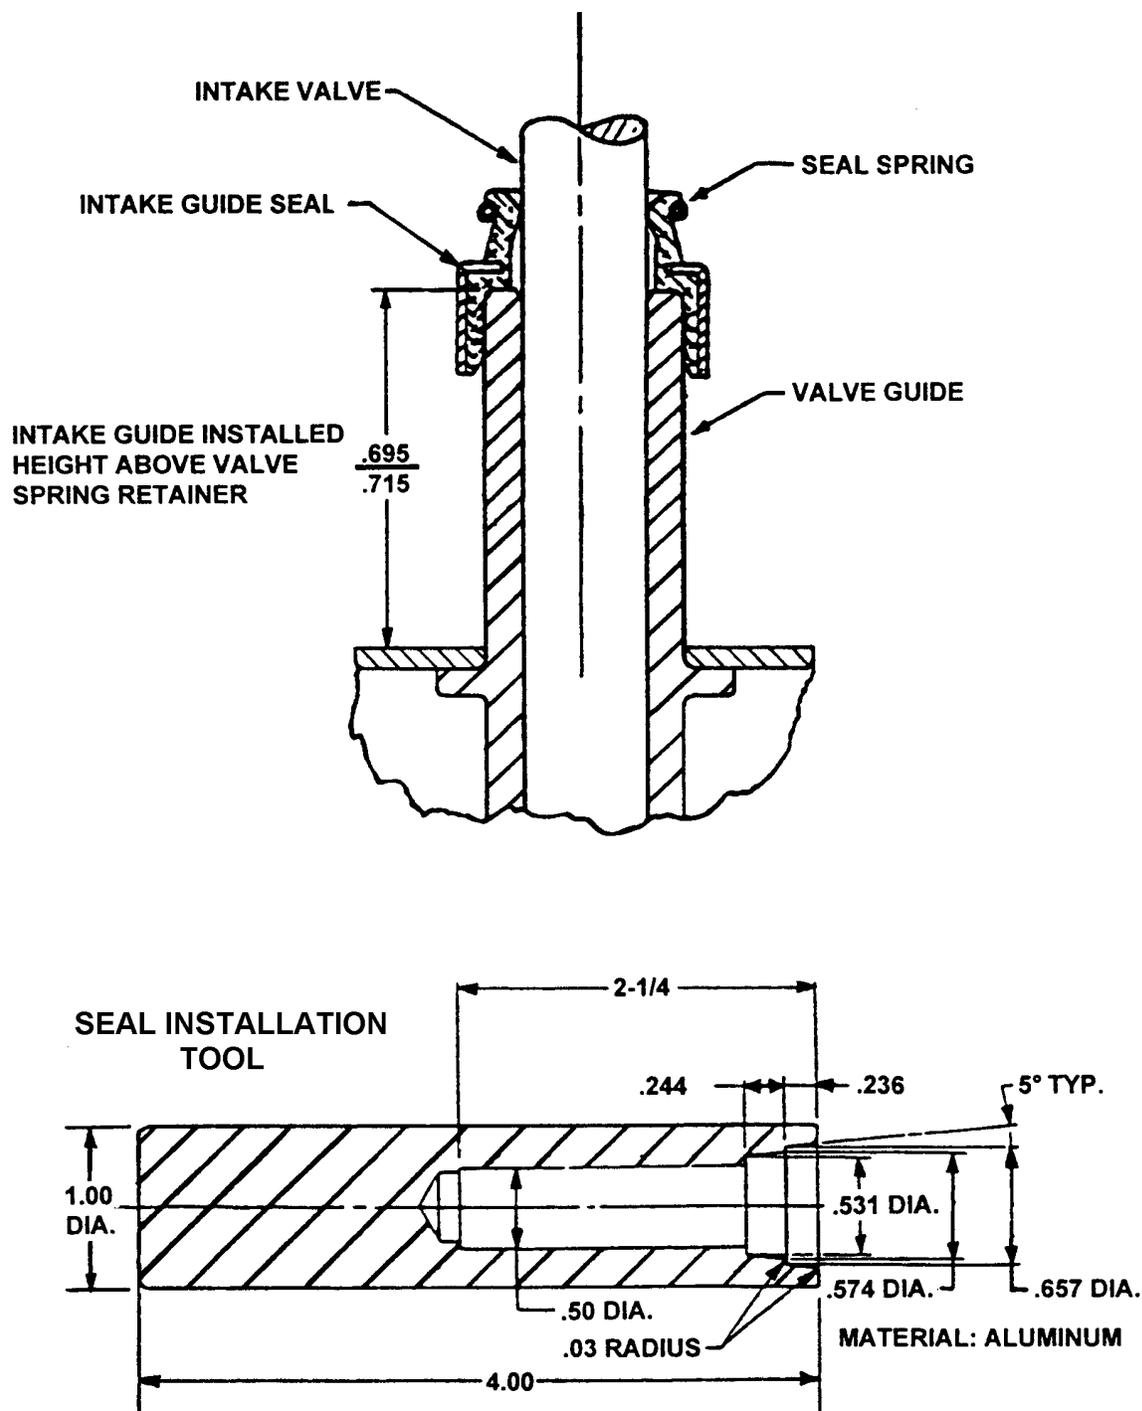

FIGURE 16-19. VALVE GUIDE SEAL INSTALLATION
5. See Figure 6-15, "Cylinder and Piston Assembly." Using the following instructions, assemble each of the six cylinders. If the valves have been lapped, they must be installed into the positions for which they were lapped. Spread a film of Molyshield grease on the intake valve stem (12) and the exhaust valve stem (11). Install valves into the correct location. Grasp the valve stems and install the cylinder on a cylindrical block of wood anchored to a work bench. Again apply Molyshield grease to valve stems. Place valve spring retainers (15) over valve guides (4 and 6), cupped side up. Coat the sealing surface of a new intake valve guide seal with clean 50 weight aviation engine oil. Install new seal (5) on the intake valve guide by hand. See Figure 16-19 for valve guide seal installation tool and correct installation. Using the specified installation tool and a plastic mallet tap the seal on to the guide